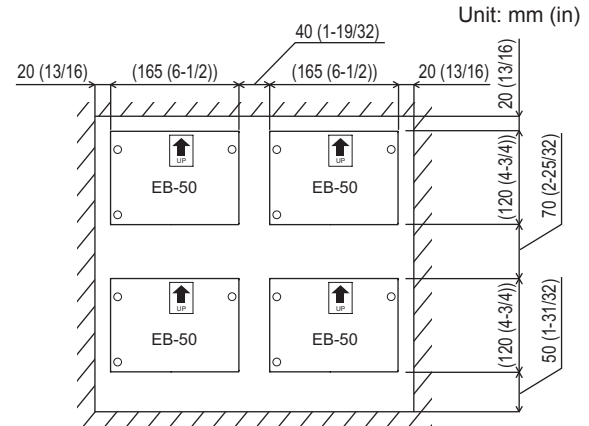
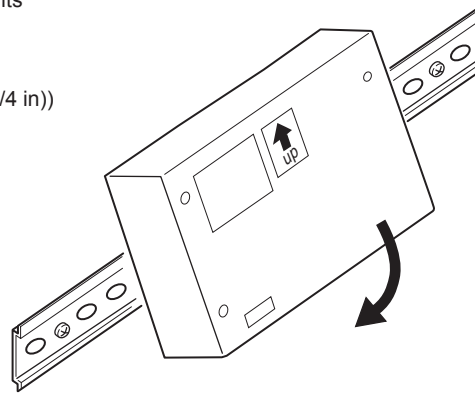
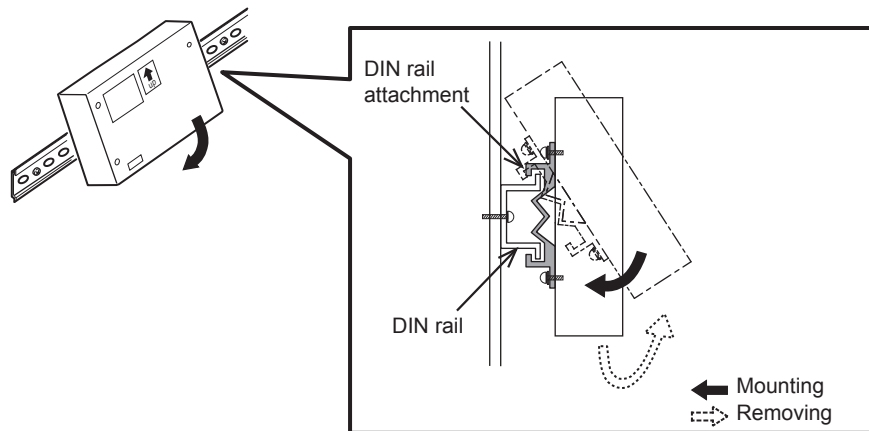

Fig. 5-2 When using DIN rail
Fig. 5-5
Fig. 5-6
3. Properly mount the EB-50 on the DIN rail vertically (Fig. 5-5 and Fig. 5-6), taking into consideration the installation space (Fig. 5-2).